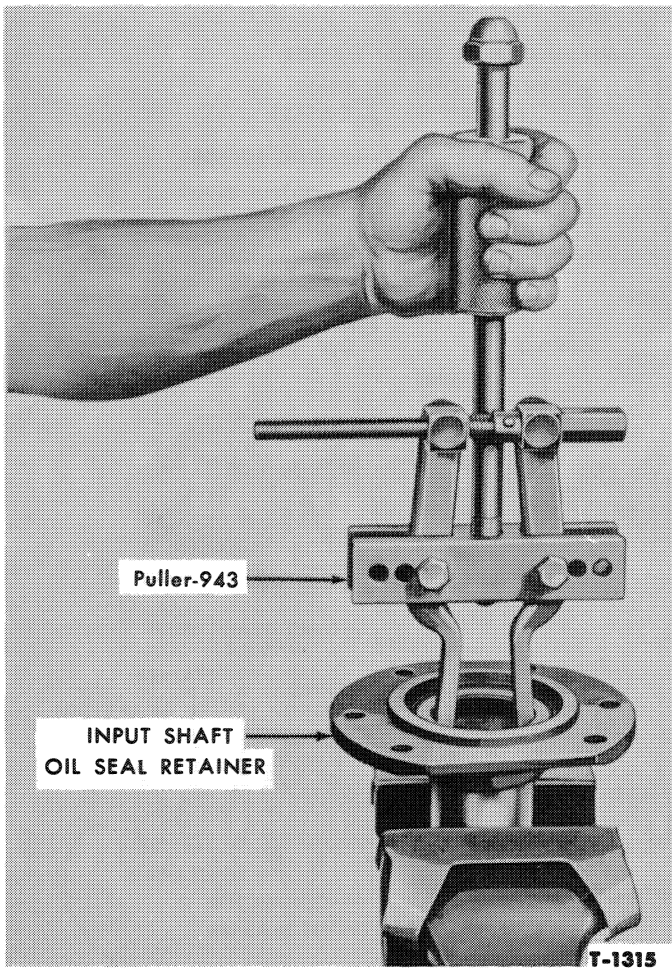

Figure 14—Removing Oil Seal from Retainer
1. Pull the oil seal with Puller 943 and a slide hammer as shown in Figure 14.